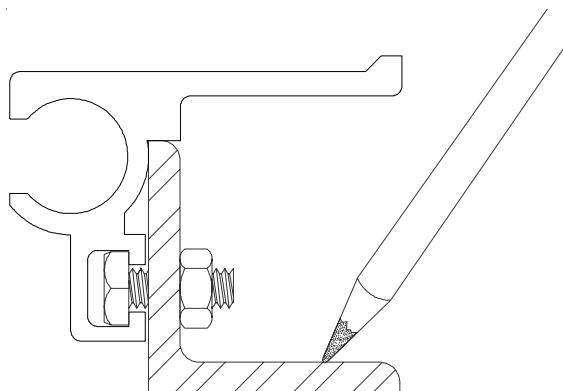

Figure 2
**STEP 3.** Select a base member assembly. If the anchor holes have not been pre-drilled in the base member assembly at the factory, mark the locations for the anchor holes on the steel angle (see Figure 2). Standard anchor spacing is 20" O.C. with an anchor at a nominal 3" from each end of the base member assembly. If necessary, drill the anchor holes into the